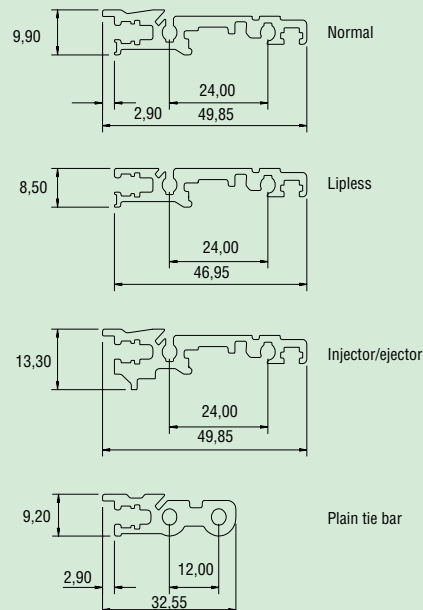
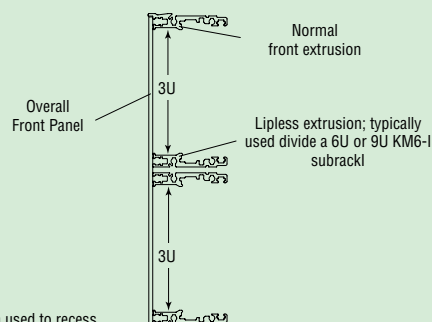

Figure 6
Figure 7
- LIPLESS** which has normal guide location holes but offers two facilities; if used as a height dividing extrusion, it is possible to use overall front panels (see figure 6); it will also fit within an EMC screen, permitting the recessing of cards (see figure 7).